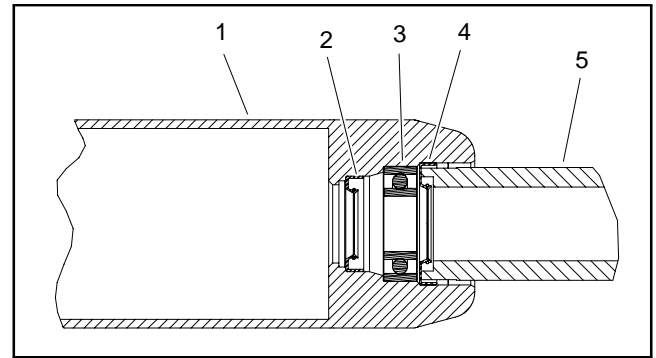

Figure 14
C. Install first outer seal into roller tube making sure that seal lip (and garter spring) faces end of tube. Use bearing/outer seal tool (see Special Tools in this chapter) and soft face hammer to lightly seat seal against roller shoulder (Fig. 14). Make sure that bearing still freely rotates after seal installation.